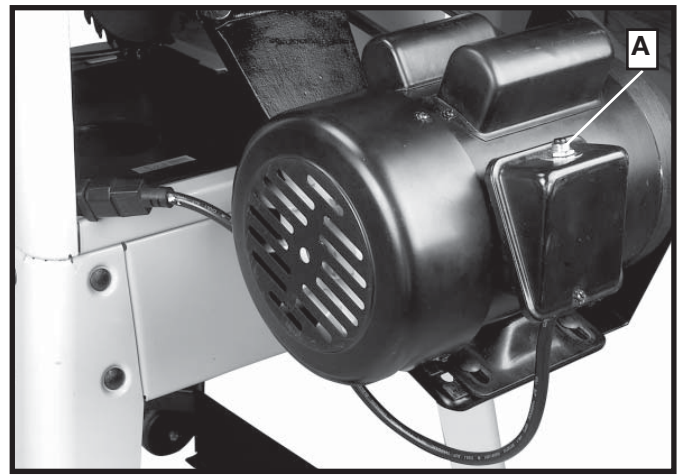

Fig. 58
The motor supplied with your saw is equipped with a manual reset overload (A) Fig. 58. If the motor shuts off or fails to start due to overloading (cutting stock too fast, using a dull blade, using the saw beyond its capacity, etc.), or low voltage, move the ON/OFF switch to the "OFF" position, let the motor cool three to five minutes and push the reset button (A), which will reset the overload device. The motor can then be turned on again in the usual manner.